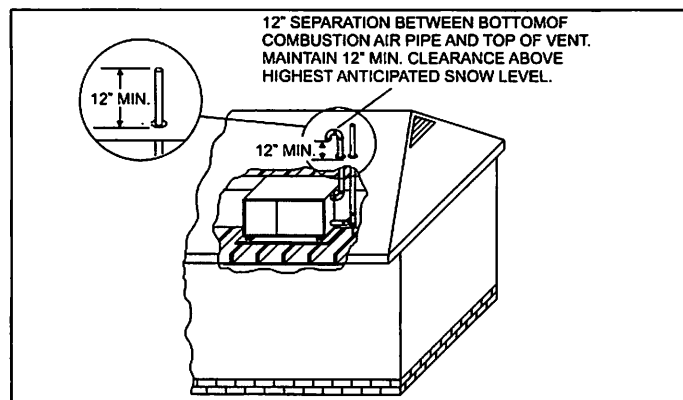

FIGURE 22: Termination Configuration - 2 Pipe Horizontal
7. A vent drain is required when vent passes through any unconditioned space such as an attic or crawl space in order to prevent the accumulation of excess condensate in the inducer motor during operational cycles. Refer to Figures 22 & 23.